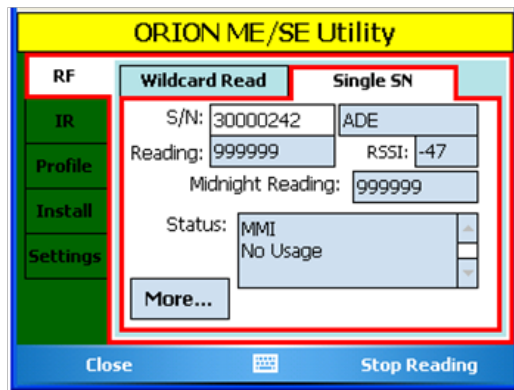

Figure 52: Single Endpoint Reading
- Status** Displays how the endpoint was programmed originally and displays any potential exception issues such as a tamper (T) or no usage (NU). Tap the up and down arrows to view all status messages.
1. To obtain a reading for a specific endpoint, tap the **Single S/N** tab as shown in Figure 52.